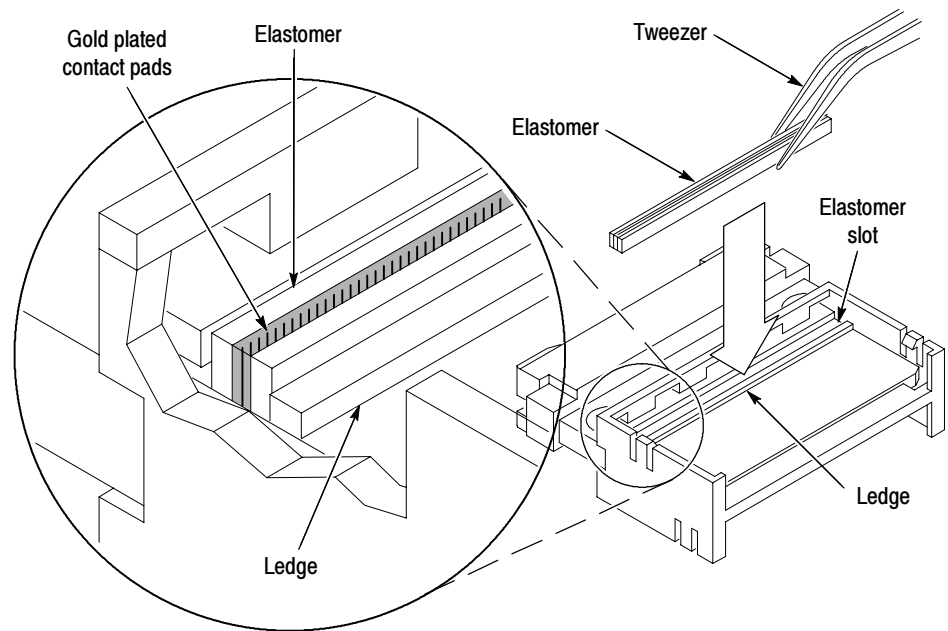

Figure 27: Positioning the elastomer connector
3. Using tweezers on the flat areas adjacent to the gold plated contact pads, remove the elastomer connectors. See Figure 27 on page 37.
4. Using tweezers on the flat areas on both sides of the gold plated contact pads, carefully orient the elastomer connector, and place it in the elastomer slot in the board holder as shown in Figure 27.